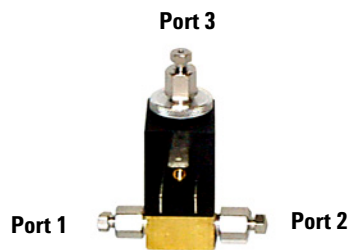

Figure 7 Valve with adapters
- 6 Install three adapters on the solenoid valve (Figure 7).